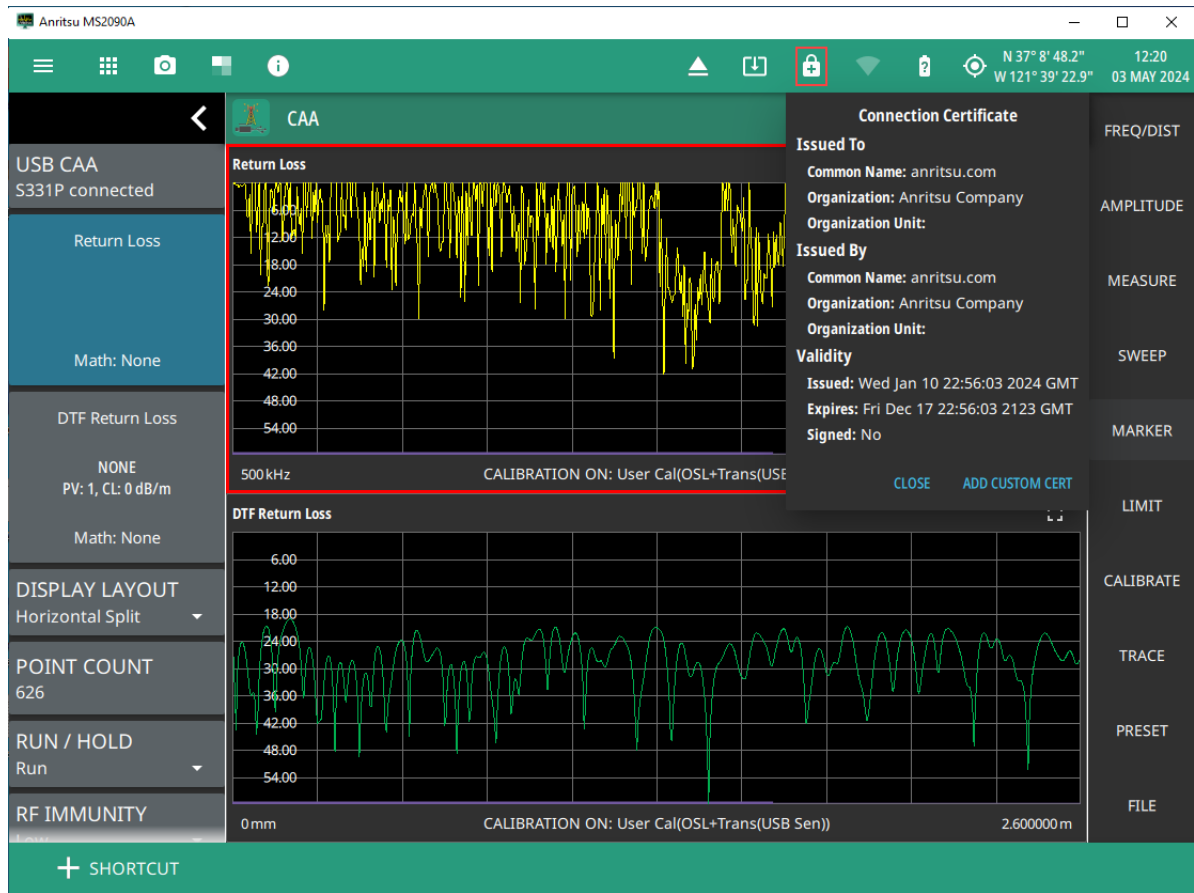

Figure D-7. Connection Certificate Icon
1. Click the Connection Certificate icon on the title bar (see Figure D-7).